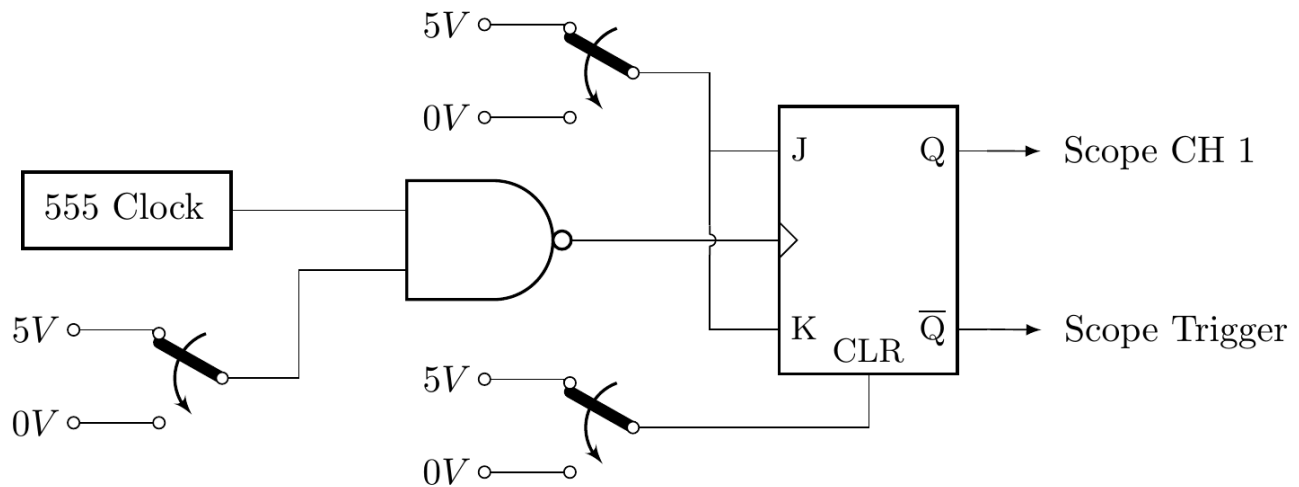

Figure 7: JK flip-flop test setup
2. Set  $\text{CLR} = 1$  and  $J = K = 1$ . Now drive the clock input of the flip-flop with 4 kHz pulses from your clock circuit. Use the oscilloscope to measure the clock input and the output,  $Q$ , of the flip-flop. You may find Figure 7 helpful to set up this part. Record your measurements and compare with your prediction from Section 3.3.c. Include a screen shot showing the results.